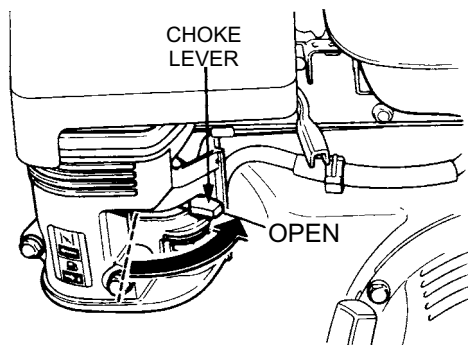

Figure 17. Choke Lever (Open)
7. If the choke lever was moved to the "CLOSED" position to start the engine gradually move it to the "OPEN" position (Figure 17) as the engine warms up. If the engine has not started repeat steps 1 through 6.